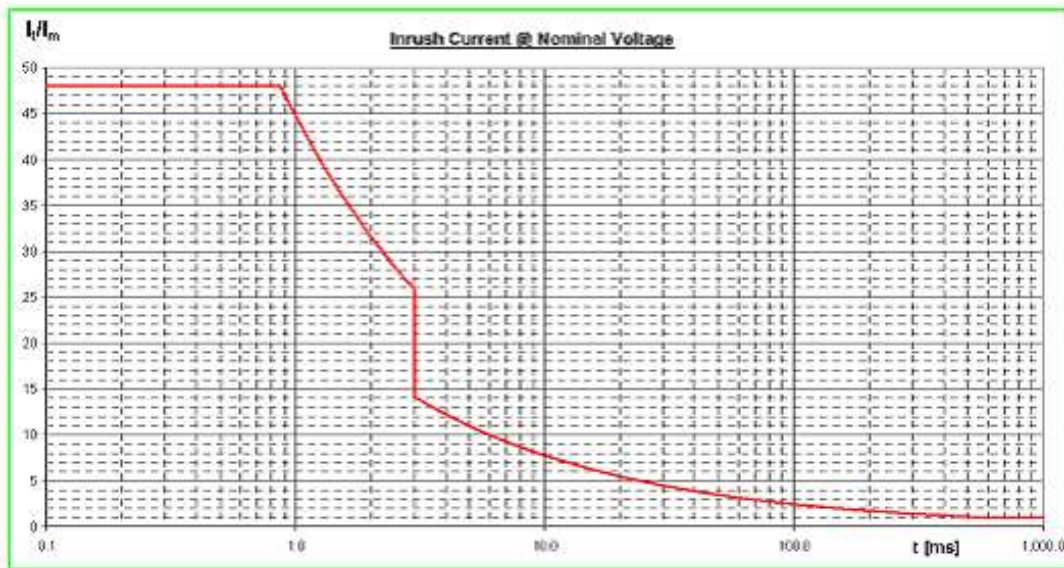

Figure 3: Maximum inrush current characteristics for telecommunications equipment at nominal voltage and maximum load
(5) Supply protection	The supply at interface “A” shall be protected by circuit breaker or other such devices. Circuit breaker is installed outside GX4000.
(6) Maximum current drain following abnormal service	Maximum current drain at any voltage in the normal and abnormal voltage range at interface “A” lasting for longer than 1 second shall not exceed 1.5 times the maximum continuous current drain at normal working voltage of -48 Vdc.
(7) Inrush current	In accordance with Figure 3, ETSI EN300 132-2 V2.2.1 (2007-05)